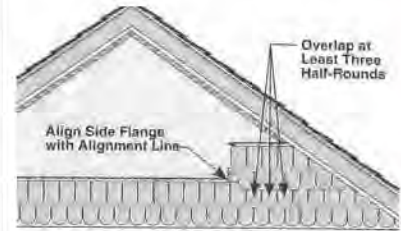

Fig.28
- Measure from the Left Side Flange making sure to stagger the laps by at least 3 round-cuts (Figure 28).
- Align Left Side Flange with nearest Alignment Line of course below (Figure 28).